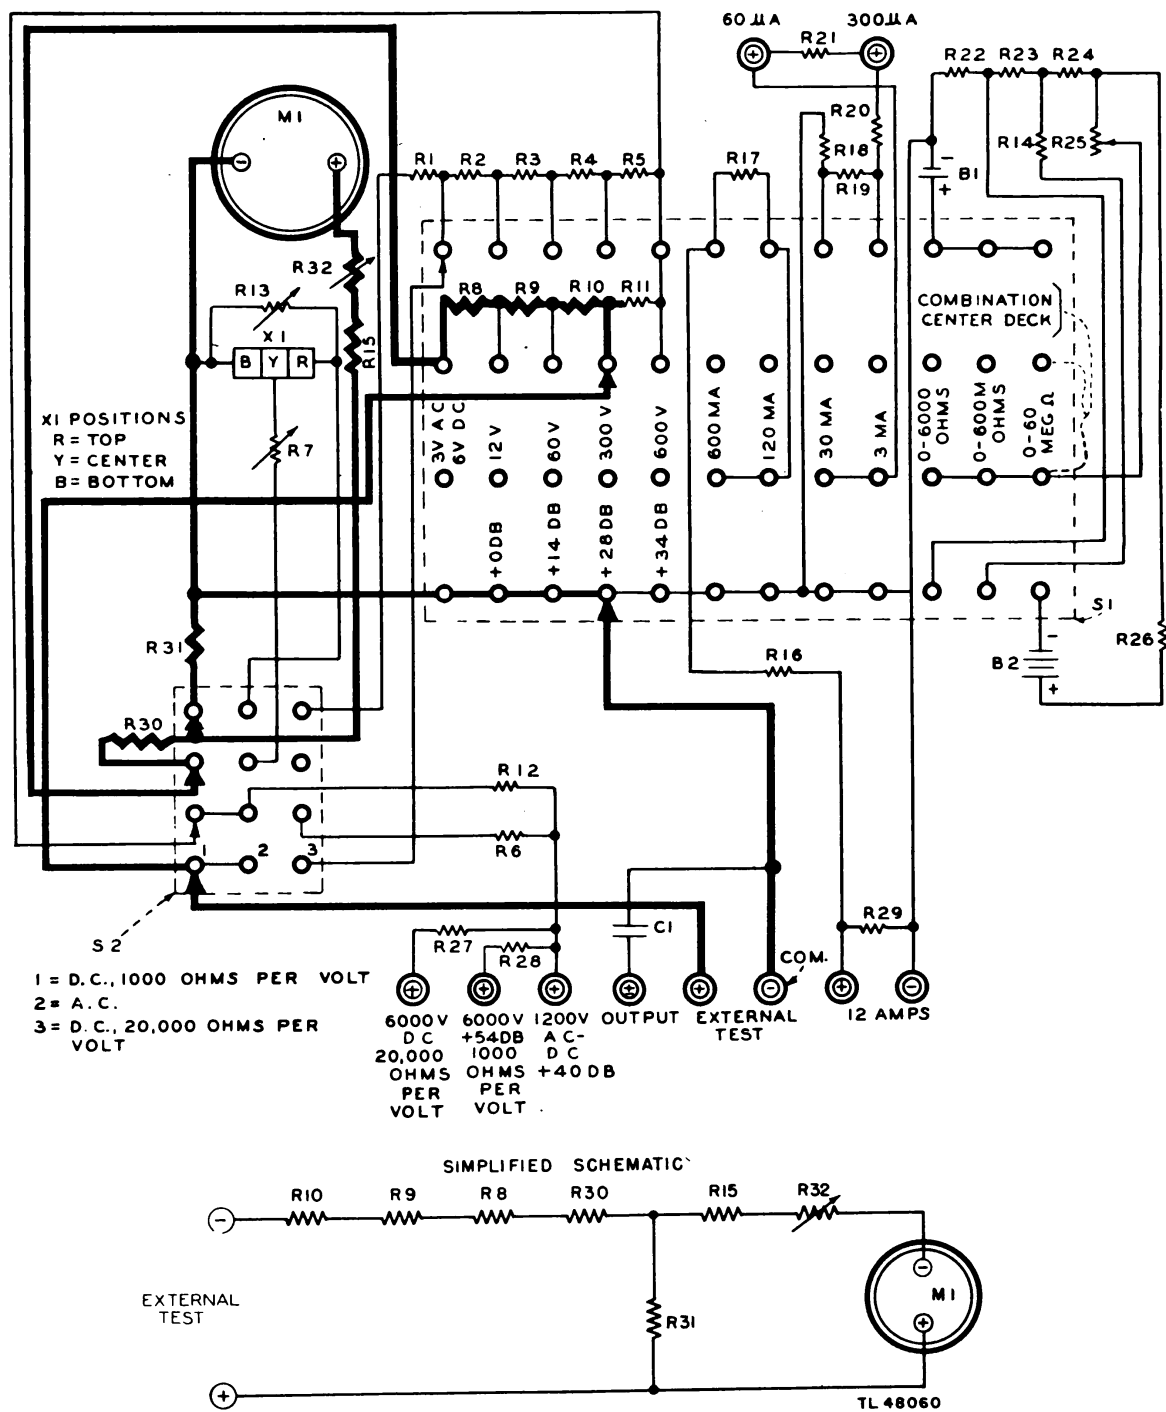

Figure 3. Circuit used for 60 to 300 volts d-c measurement at 20,000 ohms per volt.
**c. D-c Voltmeter.** Figure 3 shows a simplified schematic diagram of the circuit used to make d-c voltage measurements at 20,000 ohms-per-volt sensitivity from 60 to 300 volts. All d-c voltage measurements are also available at 1,000 ohms-per-volt sensitivity by turning the three-position switch to the position marked D.C. 1000 OHMS PER VOLT.